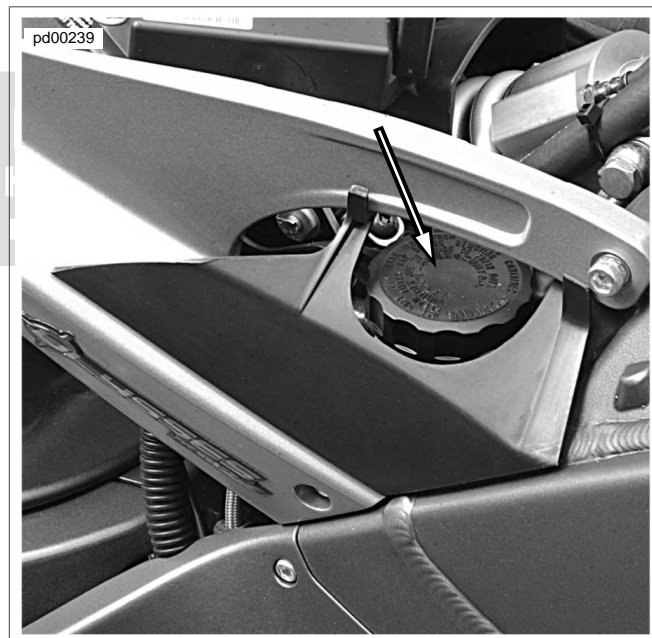

Figure 1-12. Rear Master Cylinder Reservoir: Ulysses
3. See Figure 1-12. Unscrew cap from rear master cylinder reservoir.